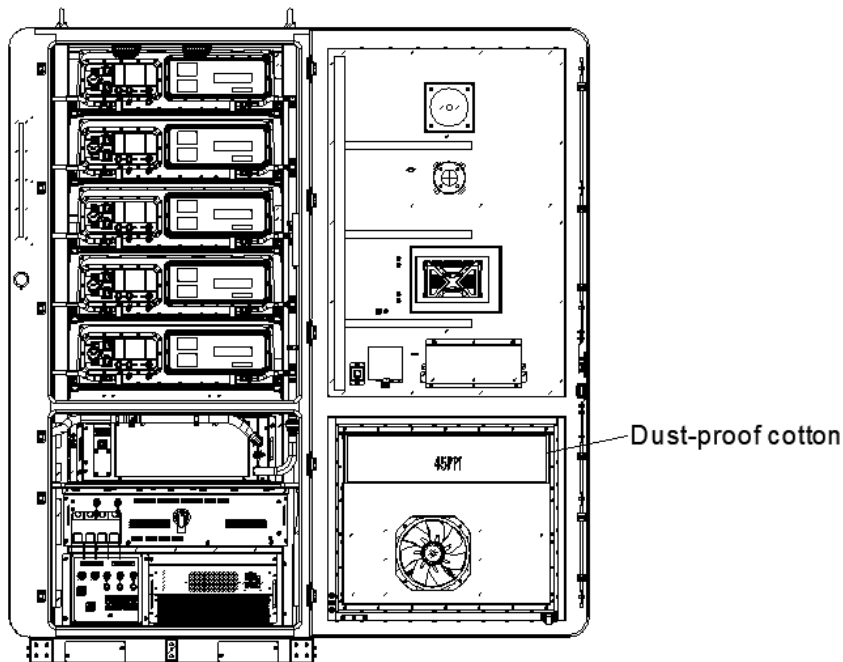

Figure 8-1 Location diagram of dust-proof cotton
- The dust-proof cotton on the front door at the bottom of the equipment needs cleaning or replacing regularly. Otherwise, it will block the air duct, causing overheating protection of internal components. It is recommended to clean the cotton once every 3-6 months or every 1-2 months in the dusty areas. To clean the cotton, open the cabinet door. See the position of the dust-proof cotton in Figure 8-1.